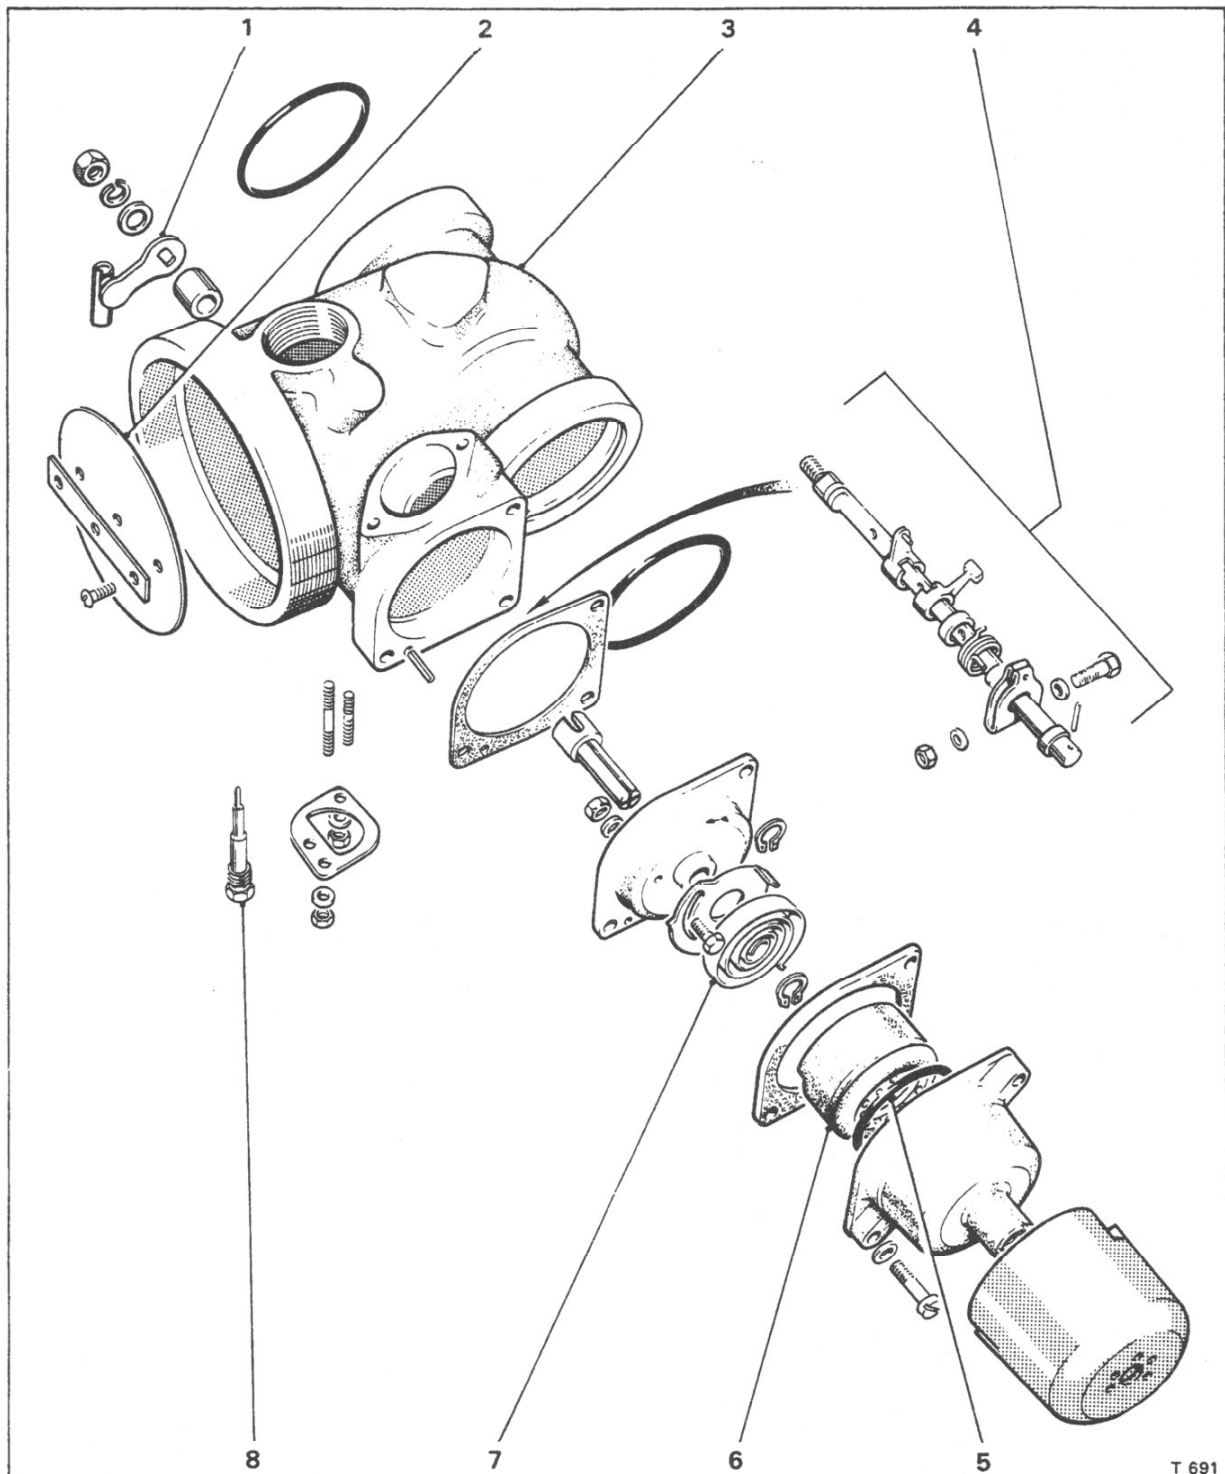

Fig. K90 Automatic choke assembly (exploded)
Automatic choke assembly - To dismantle (see Fig. K90)
12. Dismantle the spindle noting the relative position of the components (see Fig. K90).